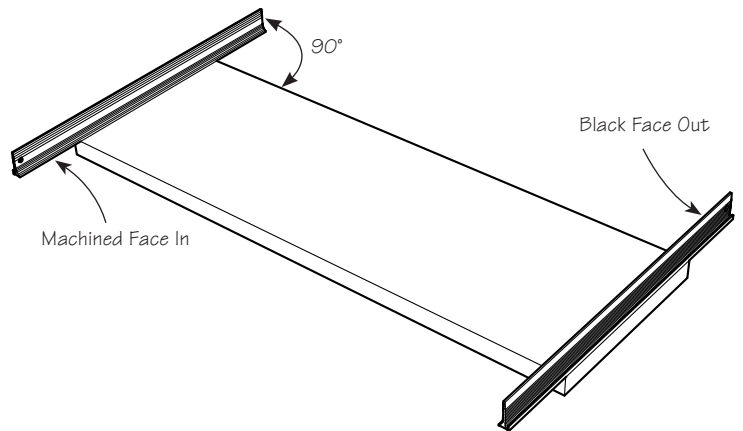
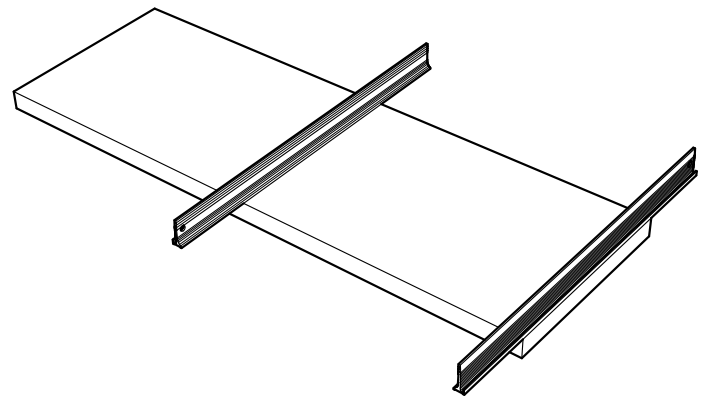

Figure 1: Setting up the winding sticks on a workpiece.
Figure 2: Measuring twist midway along a board.
1. Place the two sticks as shown in **Figure 1**, such that the machined surfaces are facing each other and the edges of the sticks are at right angles to the side of the board. Typically, you would place the sticks at either end of the board; however, you may want to place them so that you can gauge the twist at different locations along the length of the board (see **Figure 2**).